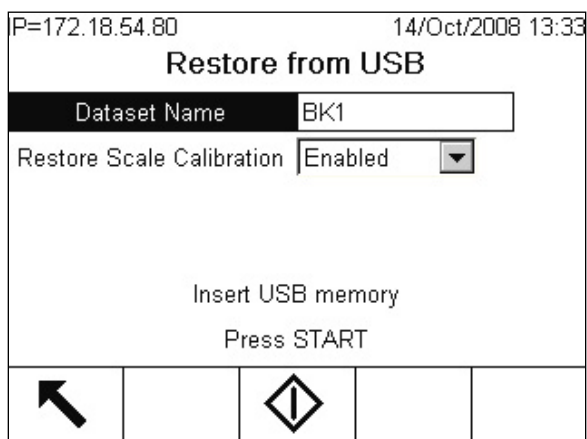

Figure 4-7: Restore from USB
2. Access **Setup > Maintenance > Run > Restore from USB**. A screen like the one shown in Figure 4-7 will appear.